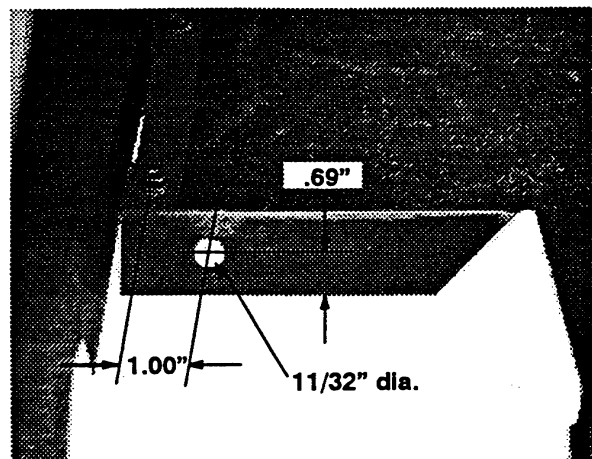

Figure 2
3. Using dimensions shown in figure 2, locate, mark and drill 11/32" dia. hole in floor plate.